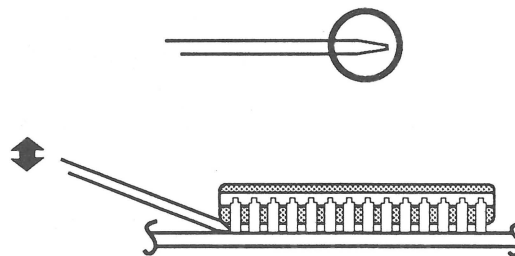

FIGURE 2
3. Carefully remove the ROM from the controller board. To do this, insert the flat edge of the orange stick under one end of the ROM chip and gently pry up the chip as shown in Figure 2. Then pry up the other end of the chip.